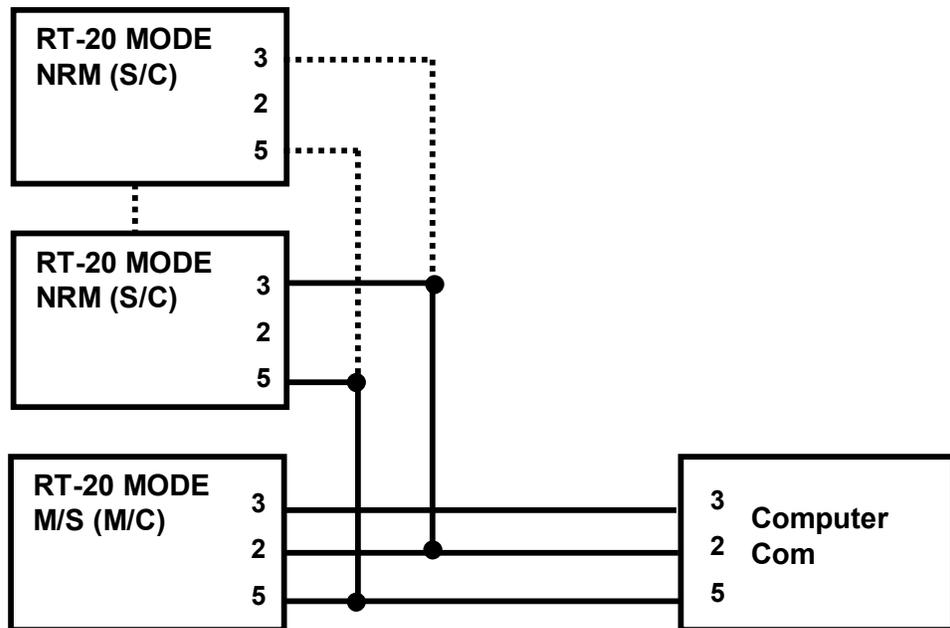

Figure 4. Master/Slave (M/S) Interconnect Example
- Cable the units as shown in Figure 4.